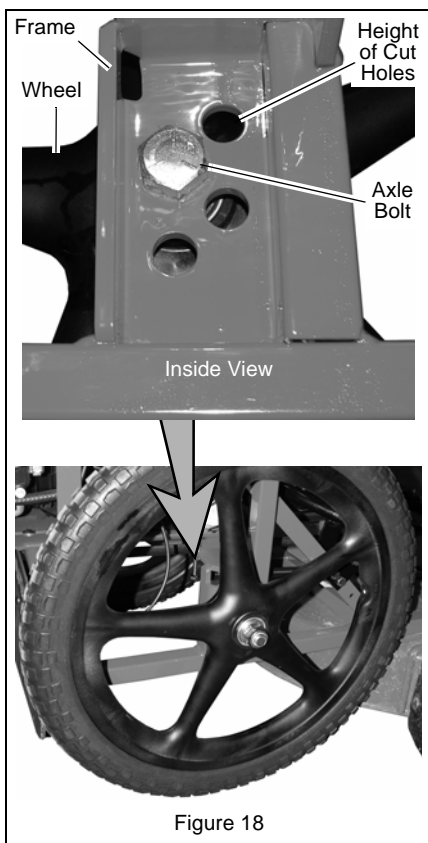

Figure 18
Height of Cut (HOC) is adjusted by positioning the front and rear wheels in a series of mounting holes. See Figures 18 and 19.
7. Hold rear axle bolt stationary with a wrench while removing inner nut. See Figure 18.